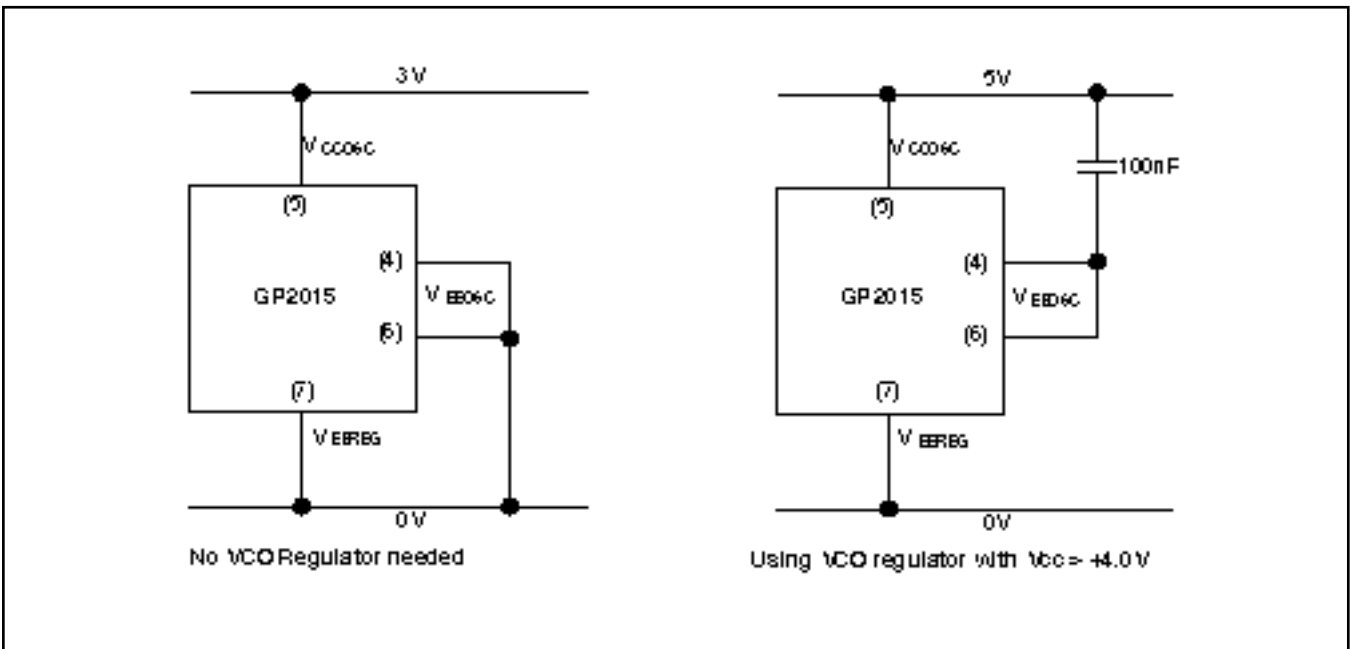

Fig. 7 VCO power-supply connections
- Both pins 4 & 6 ( $V_{EE}$  (OSC)) are connected internally. If the VCO regulator is used ( $V_{CC} = +5.00V$  nominal) then both pins 4 & 6 must be left floating, with either pin de-coupled to  $V_{CC}$  (OSC) with a 100nF capacitor. In this configuration, the dc output level of the regulator can be monitored from  $V_{EE}$  (OSC), with respect to  $V_{CC}$  (OSC) - NOT 0V ( $V_{EE}/GND$ ). For operation at  $V_{CC} < +4.0V$ , the VCO regulator cannot be used, and both  $V_{EE}$  (OSC) pins must be shorted to  $V_{EE}$  (REG) (Pin 7) - see Fig. 7.